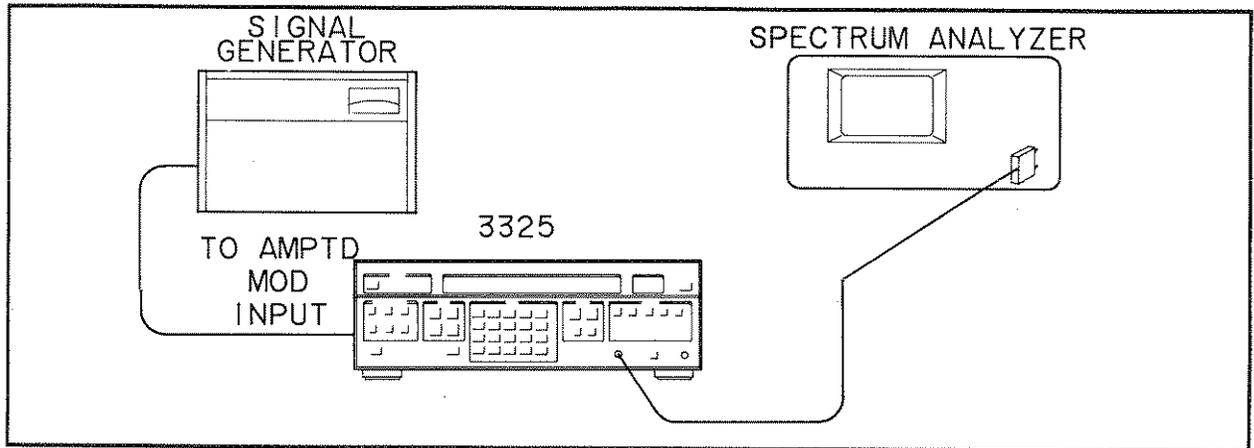

Figure 4-9. AM Envelope Distortion.
- a. Connect the equipment as shown in figure 4-9.